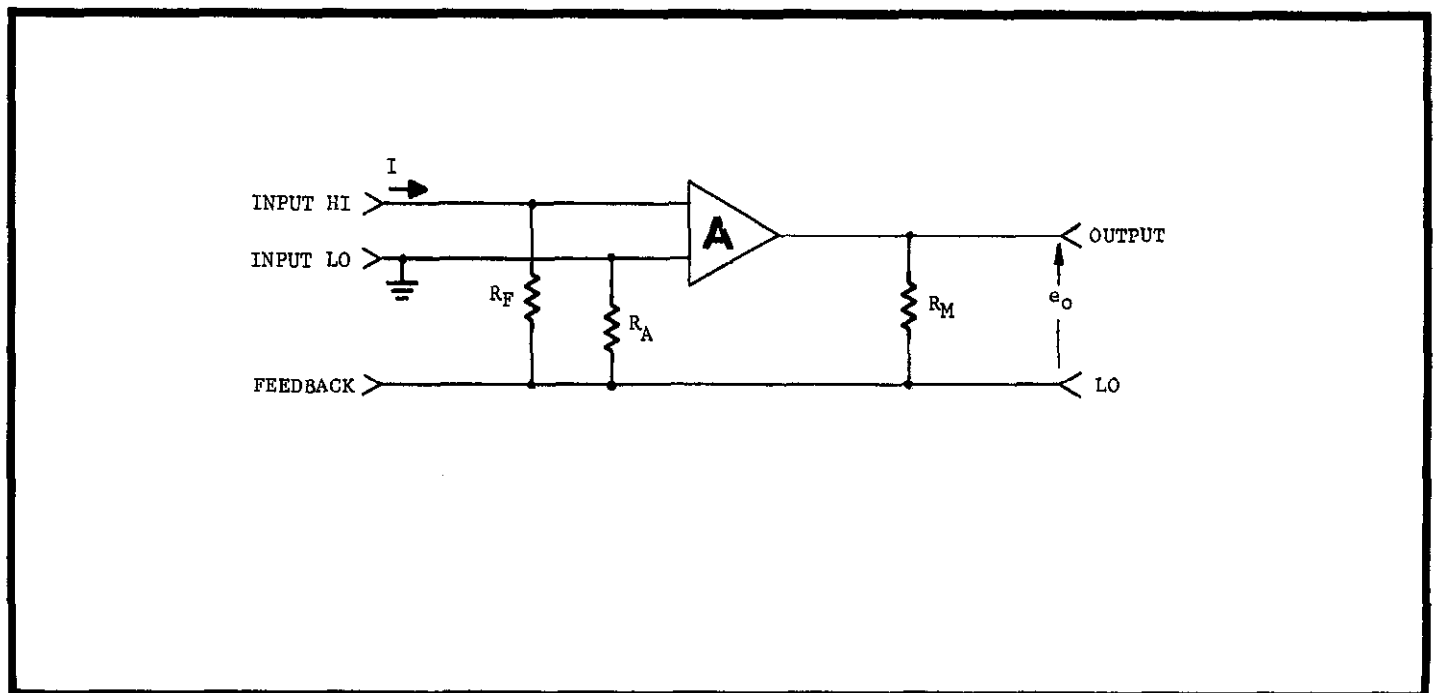

FIGURE 8. Current Fast Function.
1. Theory. The Model 640, when used as a feedback ammeter, can be illustrated as shown in Figure 8. In this configuration the instrument is useful for making sensitive measurements from 10^{-15} ampere full scale. Response speed is greatly improved compared to the VOLTAGE FUNCTION configuration since the effect of input capacitance is largely neutralized. The input voltage drop and effective ammeter input resistance is given for each RANGE setting as in Table 2-1.